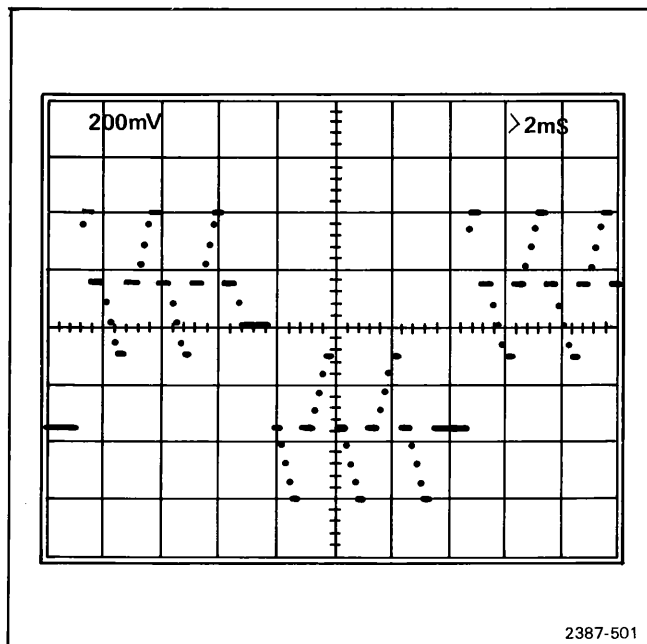

Fig. 5-1. Display of staircase waveforms for checking Y gain.
- l. **CHECK**—that the distance between the top and bottom stairsteps is 5.0 ± 0.15 (4.85 to 5.15) divisions. See Figure 5-1.